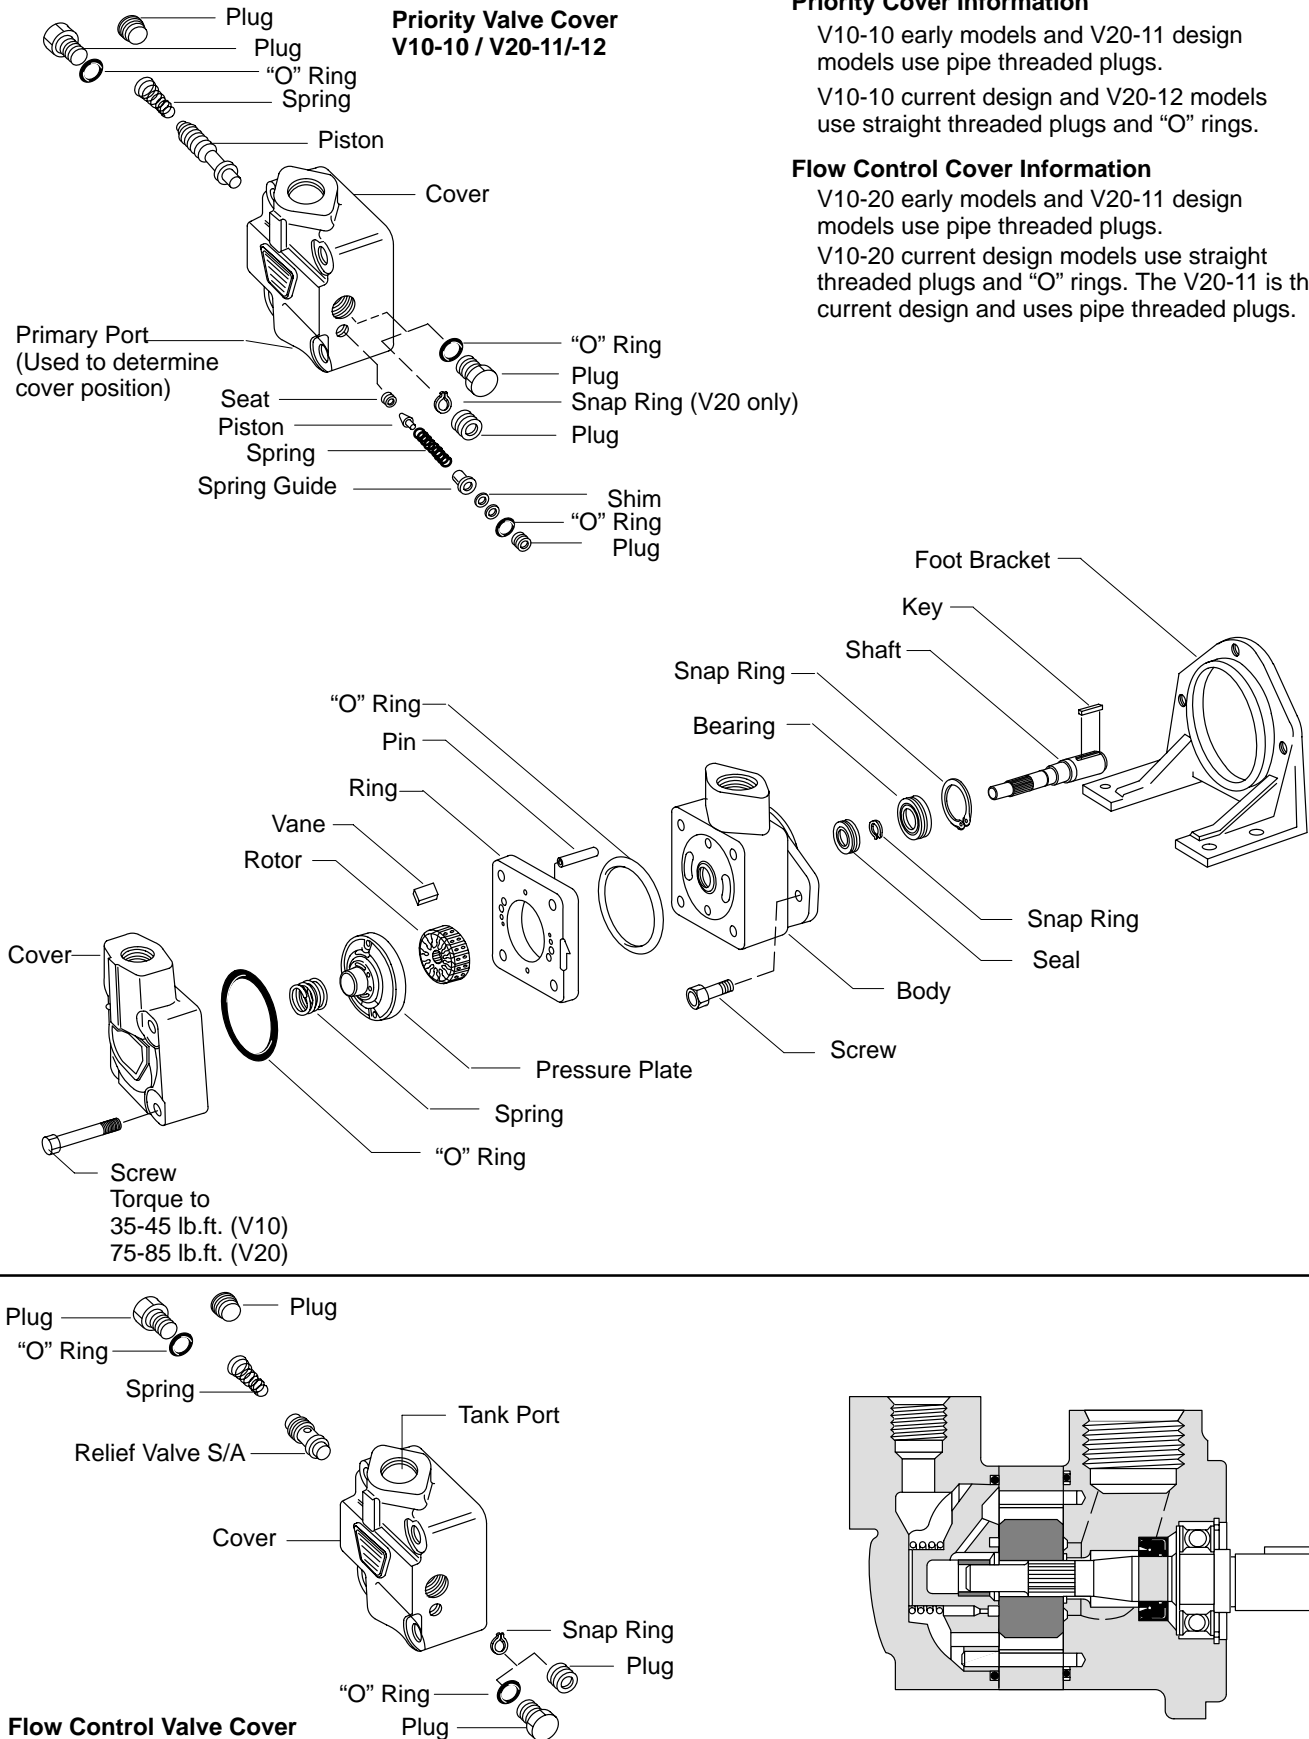

Figure 8.
Pump bearings are pressed in the bodies or on the shafts are should not be removed unless defective. Figure 8 is an exploded view which shows the proper relationship of the parts for disassembly and assembly. Refer to Figure 1 and Figure 8 for the correct assembled relationship of the parts.
1. Disassembly of Basic Pump – See Figure 8. If a foot bracket is used, remove before dismantling the pump. Clamp the pump body in a vise (not too tightly), cover end up, and remove the four cover screws. Note the position of the cover port with respect to the body port before lifting off the cover and “O” ring. (See paragraph 2 for disassembly of flow control covers and paragraph 3 for disassembly of the priority valve covers).
2. Disassembly of Flow Control and Relief Valve Covers – See Figure 8. Remove the plug and “O” ring from the snap ring side of the cover. Then remove the plug and “O” ring that releases the spring and relief valve S/A. Insert a suitable tool from the snap ring end of the bore.
3. Disassembly of the Priority Valve Cover – See Figure 8. Remove the plug, “O” ring and spring from one end of the priority valve bore, and the plug and “O” ring from the other end of the bore. Insert a suitable tool into the snap ring end of the bore (Snap ring used with pipe thread plugs only) and slide the priority valve spool from the cover. If the snap ring exists, remove it from the cover. Disassemble the relief valve by removing the plug, spring, poppet and shims. On later designs a spring guide is used. See Figure 8. DO NOT remove the seat unless inspection of the poppet contact area reveals a problem in the seat area. If removal of the seat is required, thread the seat with a suitable tap approximately 3/8 inch into the seat. Thread a long bolt into the seat and pull the bolt and seat from the bore with a small gear puller.
- Assembly of Flow Control Cover – See Figure 8. Assemble the snap ring in place within the bore, (early design only) seat firmly in the groove. Insert the valve in the bore, smallest land first. Then install the spring and both plugs. Use new “O” rings if straight thread plugs are used.
- Assembly of Priority Valve Cover – See Figure 8. If the relief valve seat was removed, a new seat must be pressed into the body. Lubricate and insert the new seat chamfered end first into the cover opening. Align square and press into place. Use a short length of brass rod as a pressing tool, to prevent seat damage. Clean the relief valve bore to remove chips and filings. Insert the poppet into the bore, align square and lightly tap the stem of the poppet to mate the poppet and seat. Install the spring, shims and plug into the cover. (Later designs use a spring guide and straight thread plug with “O” rings). Be sure to check the pressure setting of the relief valve against the model code. If the setting is out of tolerance, readjust by removing or adding shims. (Removing shims reduces pressure while adding shims increases pressure.)
priority valve spool, small land first, into the bore. Install plugs at each end of the bore and secure. Refer to Figure 8 for spool orientation.
- Assembly of Pump – See Figure 8. Begin assembly by pressing the shaft into the front bearing while supporting the bearing inner race. Install the small snap ring on the shaft.
Place the pressure plate on the locating pins and flat against the ring. Place the spring over the pressure plate and then install the cover with the outlet port in the correct position. Tighten the cover screws to the torque shown in Figure 8. Rotate the shaft by hand to insure that there is no internal binding. Install the shaft key.